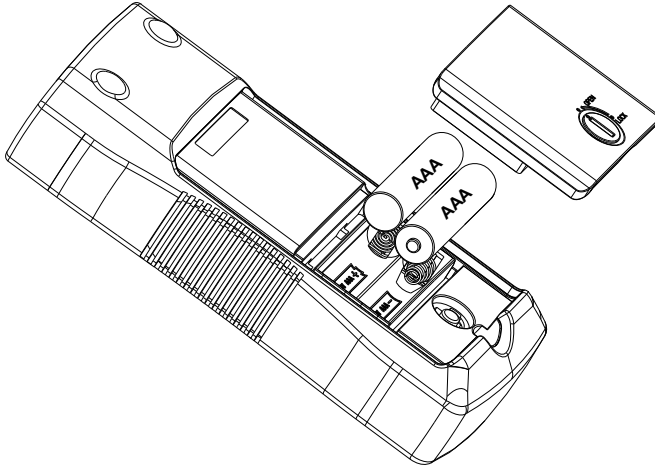

Figure 5.2: Replacing the Transmitter batteries
4. Replace the batteries as shown in Figure 5.2. Observe the battery polarity shown in the battery compartment.